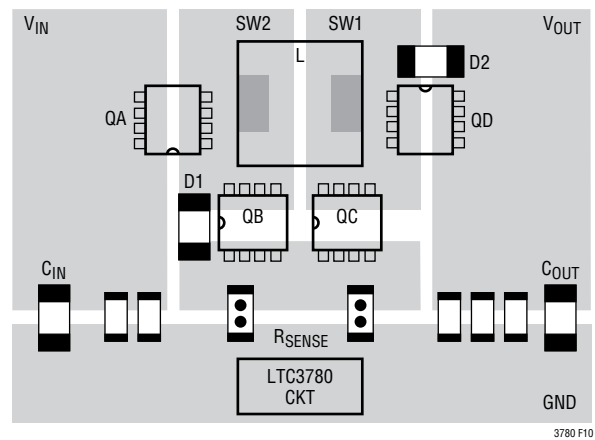

Figure 10. Switches Layout
- Place C_{IN} , switch A, switch B and D1 in one compact area. Place C_{OUT} , switch C, switch D and D2 in one compact area. One layout example is shown in Figure 10.